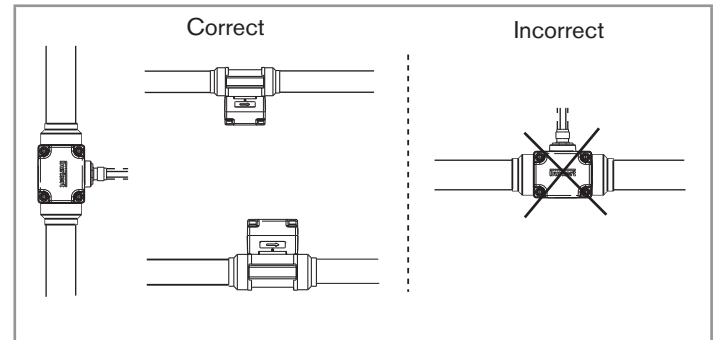

Fig. 5 : The paddle-wheel axis must be horizontal
- Install the device in such a way that the paddle-wheel axis is horizontal (Fig. 5).